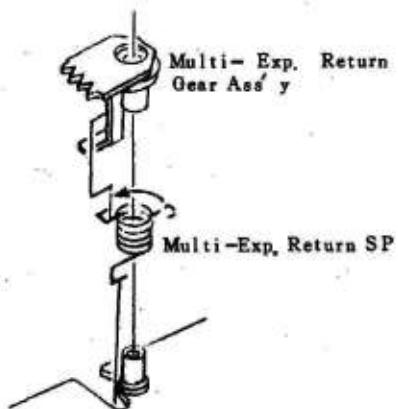

Fig. 93
- Hook up the Multi-Exp. Return Gear Spring as in Fig. 93 so that the Multi -Exp. Return Gear Ass' y operates smoothly.